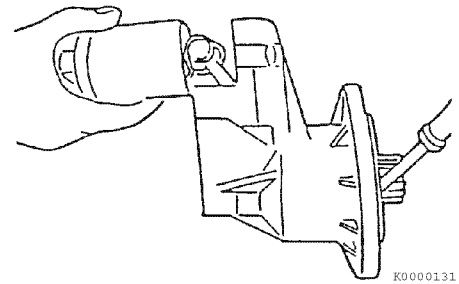

Figure 11-29
5. Reassemble the magnetic switch assembly to the gear housing. Pry the pinion away from the gear housing to allow installation of the magnetic switch assembly (**Figure 11-29**).